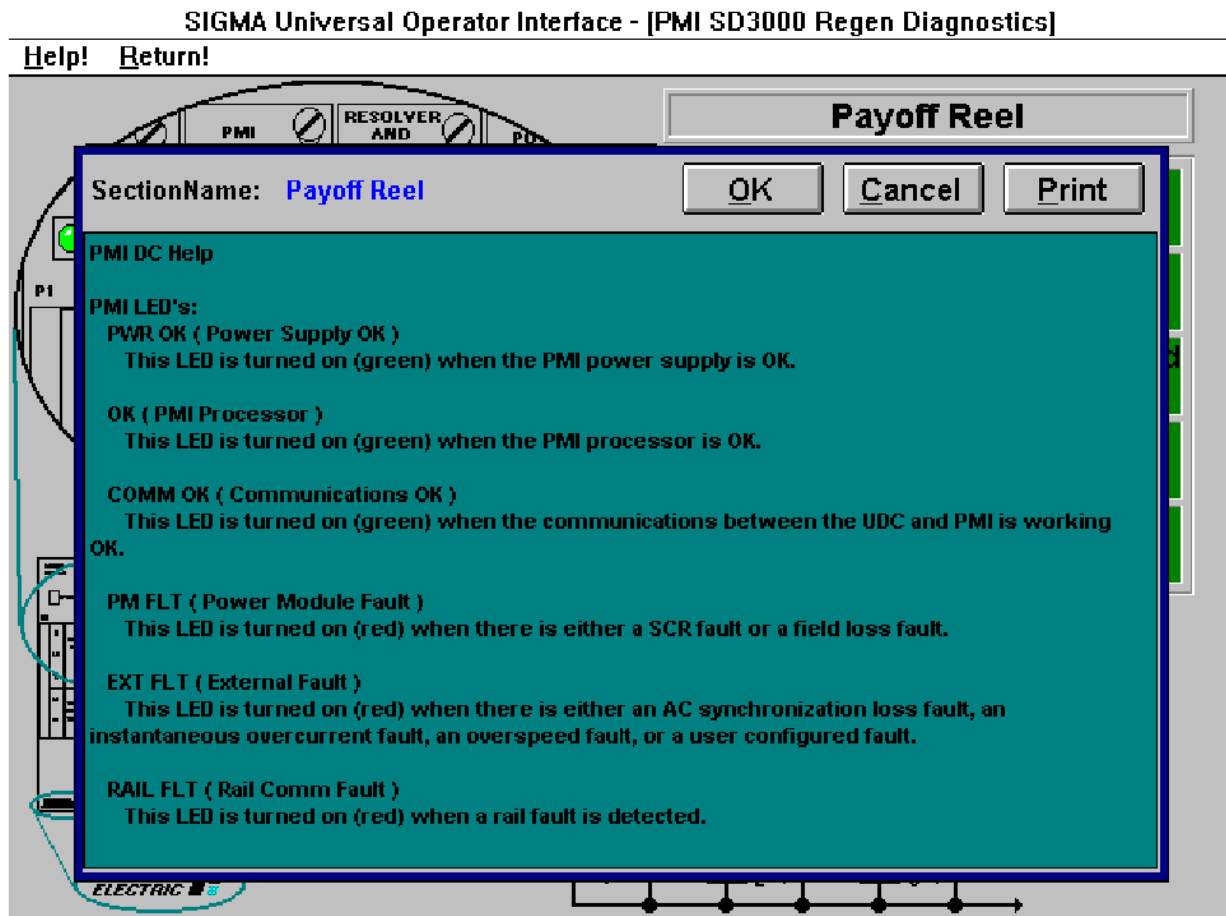

Figure 6-5 The Note Window
3. Click the **Note** push-button to display the "Note" window. Refer to Figure 6-5. Notes pertaining to the drive can be read, entered and printed through this window.